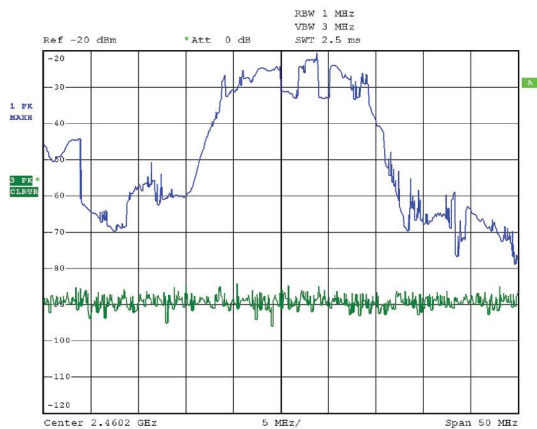
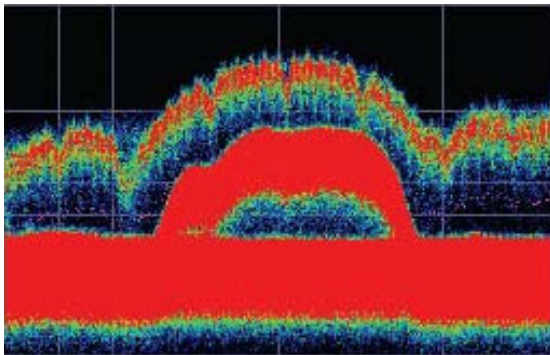

Figure 2
Figure 3
Compare the display of a traditional swept spectrum analyzer (Figure 2) and that of a real-time spectrum analyzer with a DPX display (Figure 3). The signal captured is a typical WLAN interchange between a nearby PC and a more-distant network access point (AP). The laptop signal is nearly 30 dB stronger than the AP's signal because it is closer to the measuring antenna.
The traditional swept spectrum analyzer display, Figure 2, uses line traces that can show only one level for each frequency point, representing the largest, the smallest or the average power. After many sweeps, the Max Hold trace shows a rough envelope of the stronger laptop signal. +Peak detection was selected for the other trace in an attempt to capture the weaker but more frequent AP signal, but the bursts are very brief, so the likelihood of seeing one in any particular sweep is small. It will also take a long time to statistically capture the entire spectrum of a bursted signal due to the architecture of the swept spectrum analysis.
The DPX display, Figure 3, reveals much more insight on the same signal. Since it is a bitmap image instead of a line trace, you can distinguish many different signals occurring within each update period and/or different version of the same signal varying over time. The heavy band running straight across the lower third of the graph is the noise background when neither the laptop nor the AP is transmitting. The red lump of energy in the middle is the ON shape of the AP signal. Finally, the more delicate spectrum above the others is the laptop transmissions. In the color scheme used for this demonstration (“Temperature”), the hot red color indicates a signal that is much more frequent than signals shown in cooler colors. The laptop signal, in yellow, green and blue, has higher amplitude but doesn't occur nearly as often as the AP transmissions because the laptop was downloading a file when this screen capture was taken.